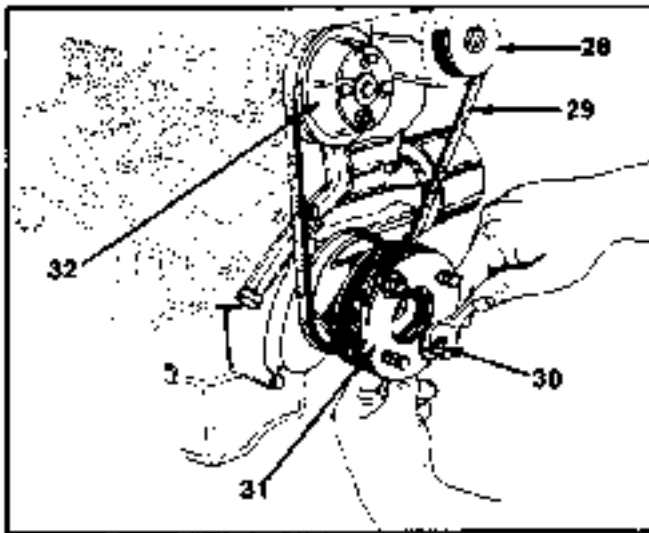

FIGURE 19.
17. Remove two hex nuts and flat washers from the flexible coupling. slide the flexible coupling from the drive shaft flange. See figure 19.